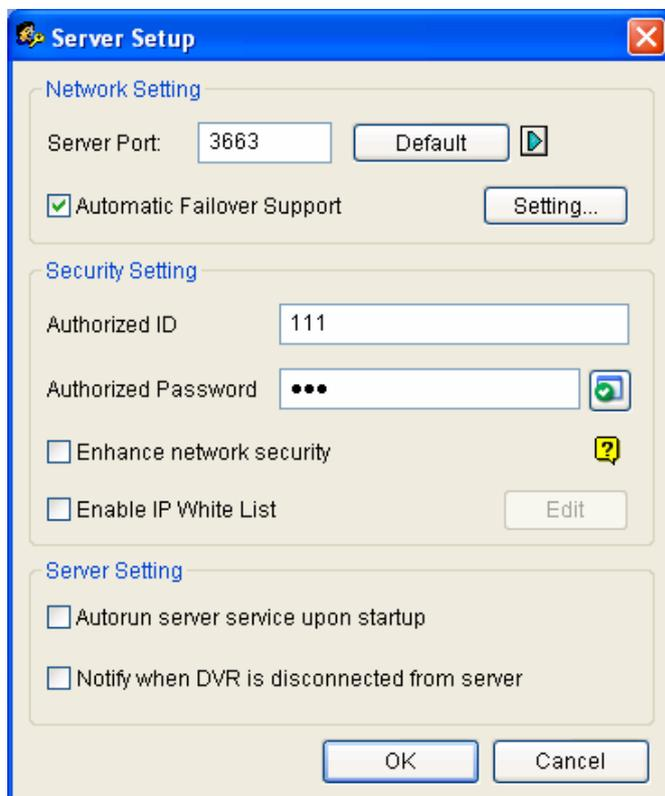

Figure 10-28 Sever Setup
3. Enter the IP address and port of the Authentication Server. Enter the valid ID and password created in the Authentication Server (Figure 10-28).
1. The valid ID and password created in the Authentication Server (Figure 10-28) don't match those in the GV-System (Figure 10-31).